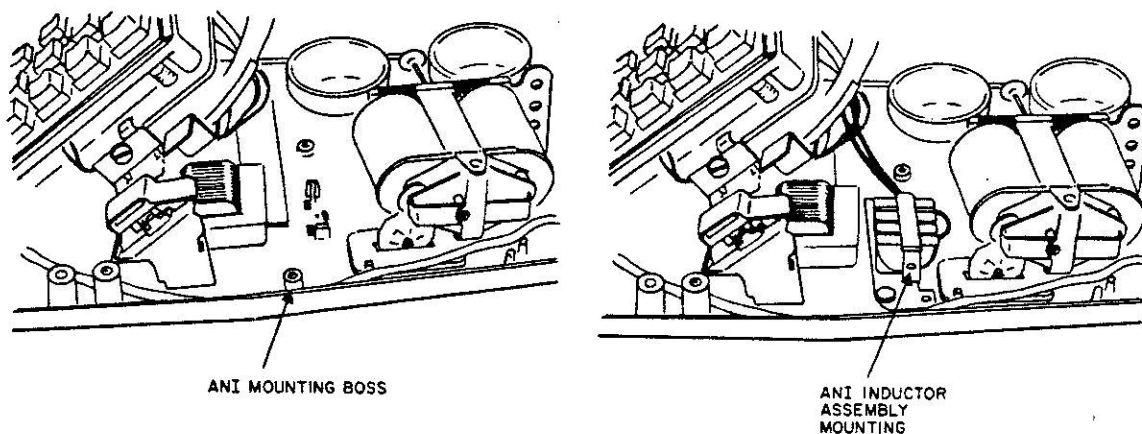

Figure 15. ANI Inductor Assembly Installation:
9.07 When second party ANI service is required, the telephone must be wired for inductive ground by using the Type 45 ringer (33-1/3 or 50 Hz) with ringer tap option or the Type 48 straight-line ringer with the ringer tap. On two-party lines, the second telephone must be equipped to provide an identifying ground without significant circuit unbalance. An inductor assembly kit (D-284686-C) may be required if a 2,650-ohm ringer tap is not available. To mount this inductor assembly kit refer to Figure 15 and proceed as follows: